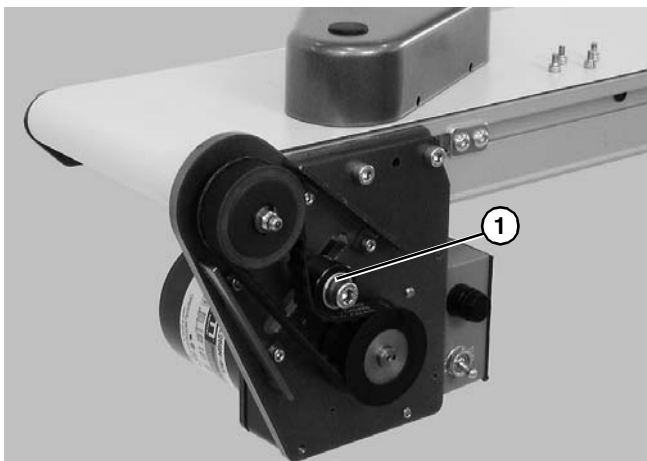

Figure 18
2. Loosen tensioner (Figure 18, item 1).